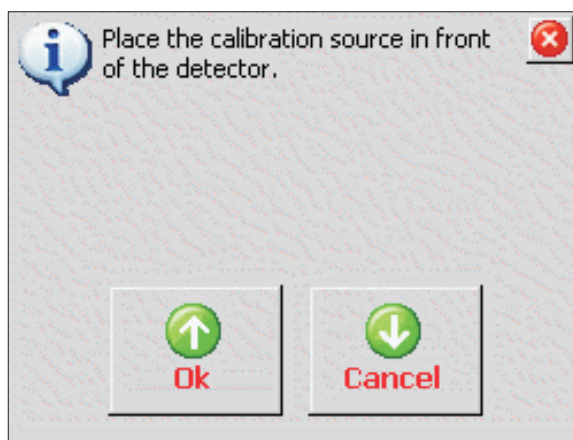

Figure 54 The Calibration Prompt
1. When you start Auto Recal, you'll be prompted to place a mono-line calibration source (10 to 20 nCi) in front of the detector (Figure 54).